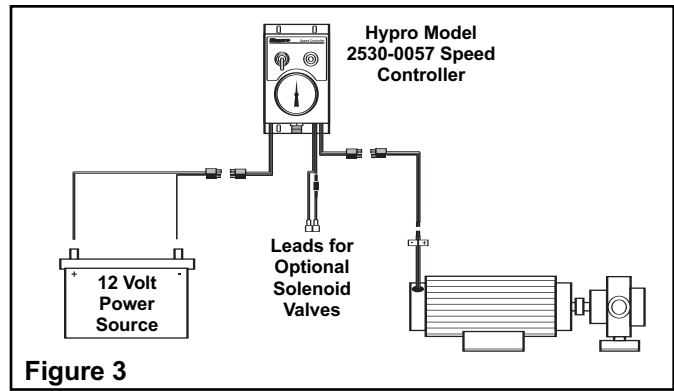

Figure 3
See Figure 3.
5. Connect the controller battery leads to the power leads from the battery, connecting Red (+) to Red (+) and Black (-) to Black (-). (See Figures 3 and 4.)
8. Connect the controller motor leads to the power leads from the motor, connecting Red (+) to Red (+) and Black (-) to Black (-). (See Figures 3 and 4.)